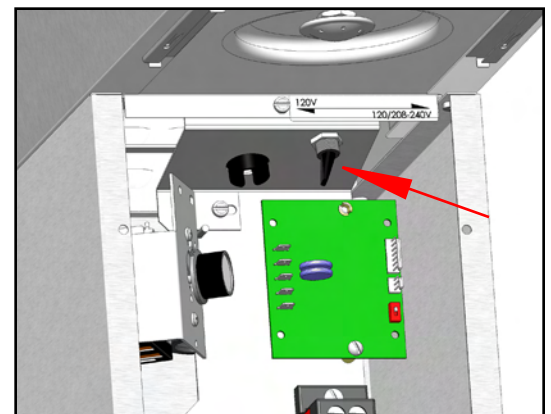

FIG. 5-1 Dual Volt Switch Position
4. Remove the front panel beneath the sprayheads. (On Dual Volt models, place the voltage select toggle switch to the corresponding voltage position being used. FIG 5-1).